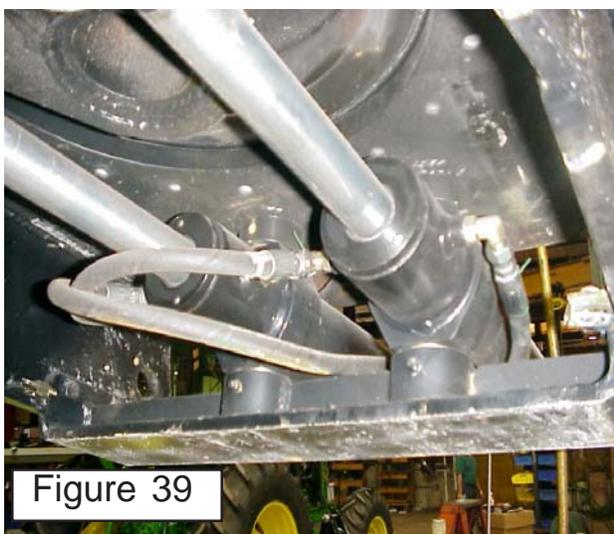
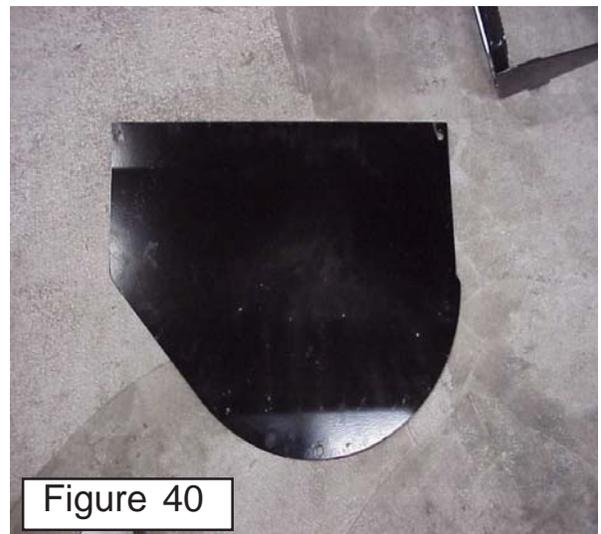

Figure 39
Figure 40
**4. Turret Assembly Grease Fittings.** The turret assembly has three grease fittings around the OD of it. The grease fittings are 120° apart, this is to make certain that the bearing will be greased all the way around because of the large diameter of the bearing. This bearing must be greased before unit is put into service. It is easier to get to grease fittings now than after boom has been installed. On the under side of the turret assembly are the grease fittings for the swing cylinder pivot mounts, these need to be greased before operating the unit. Also there is a bolt on cover on the under side of turret that will be installed (See Figure 40) at a later time. Greasing the cylinder pivots will need to be done before the cover is installed (See Figure 39) and the boom swing stop will need to be adjusted, but this cannot be done until a later time making it best to leave this cover off until then. After greasing components at assembly of unit operator should consult the operators manual for maintenance requirements.